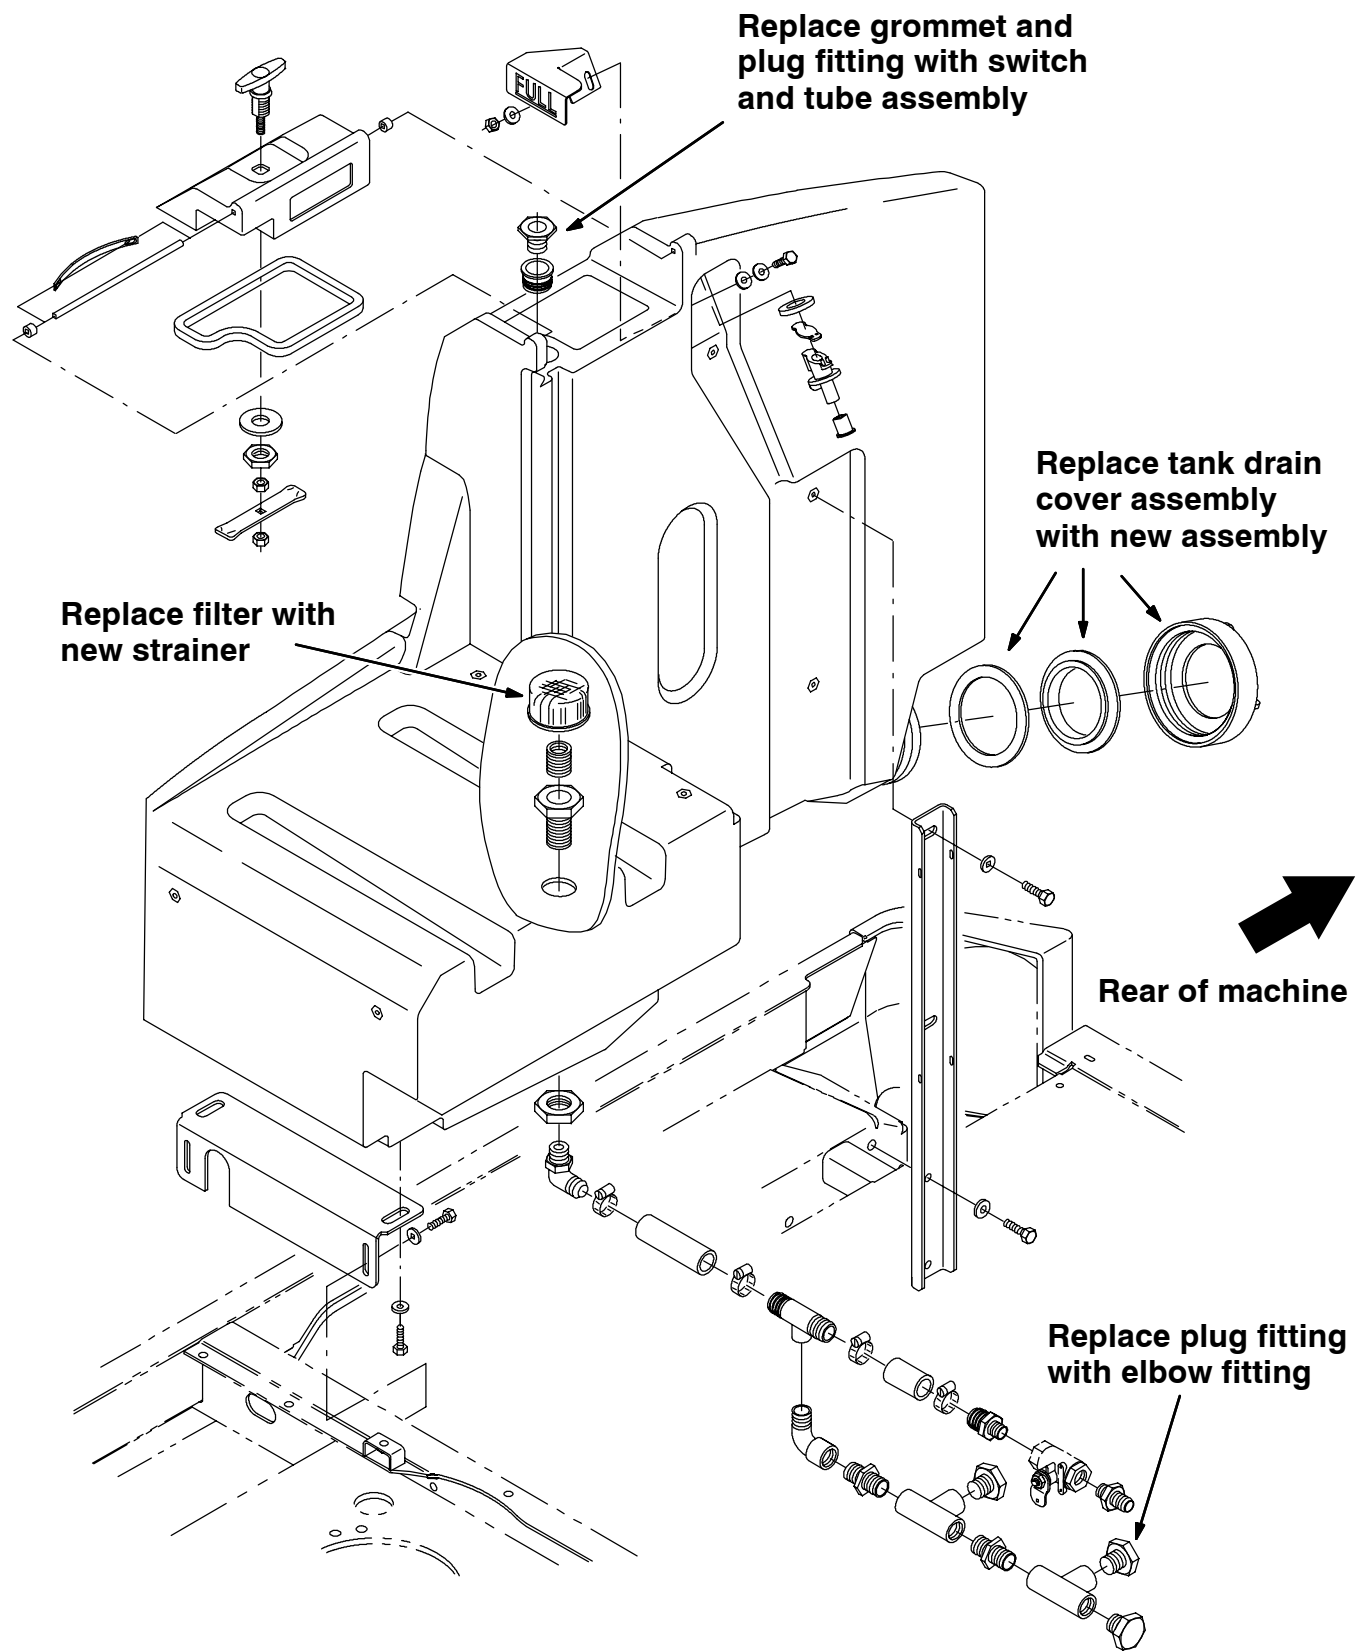

FIG. 1-Solution Tank Group
(Refer to FIG. 1 thru 15)
4. Locate the plastic tee fittings connected to the bottom of the solution tank. Remove the plastic plug fitting from the side of the designated plastic tee fitting. (Refer to FIG. 1)
12. Remove the old filter from the inside of the solution tank and replace with a new strainer (47). (Refer to FIG. 1 and 4)
13. Remove the grommet and plug fitting from the solution tank pressure switch location, and replace with the 8" tube (49) and pressure switch assembly (48). (Refer to FIG. 1 and 4)
18. Replace the solution tank cover assembly with the new solution tank drain assembly. (Refer to FIG. 1 and 5)